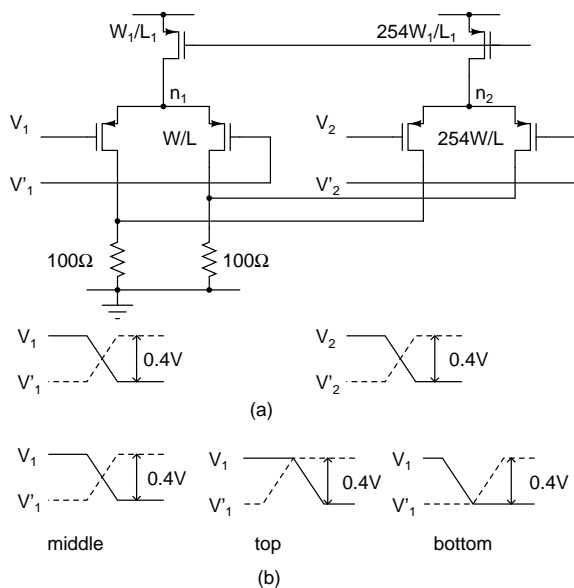

Figure 4:
5. Simulate the circuit designed in the previous problem with a power supply of 1.8 V. Use the values of switching voltages  $V_{bi}$ ,  $V'_{bi}$  calculated earlier. Simulate the configuration shown in Fig. 4(a)1
1In Fig. 4(a), the DAC is divided as a parallel combination of a unit cell and a cell that is 254 times the unit cell. Setting up 255 unit cells and simulating them with thermometer coded inputs takes a long time. Combining the cells as shown reduces the time required to setup and run the simulations
Plot the waveform on the tail node as the control switches from zero to one. For the control waveforms, use a rise time that is 10% of the sampling period calculated in the previous part. Redo the simulations when the waveforms cross at the top and the bottom (Fig. 4(b)).